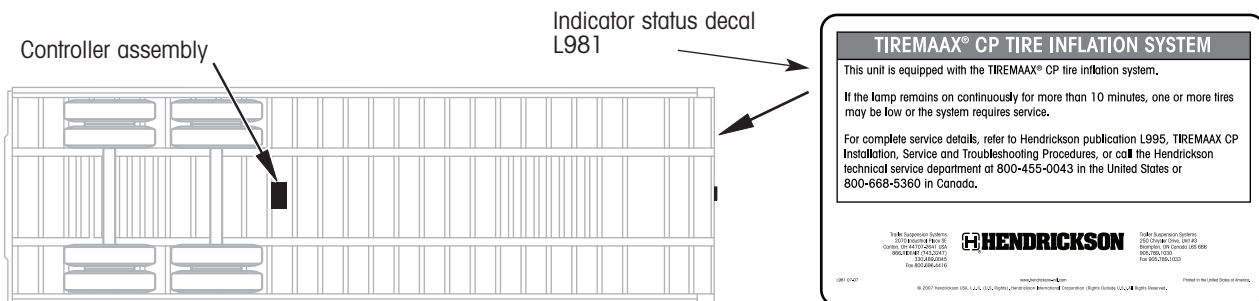

Figure 9. Recommended controller assembly mounting location and label placement
- Remove the existing TIREMAAX EC indicator status decal, L861, from the front of the trailer near the indicator lamp (figure 9).